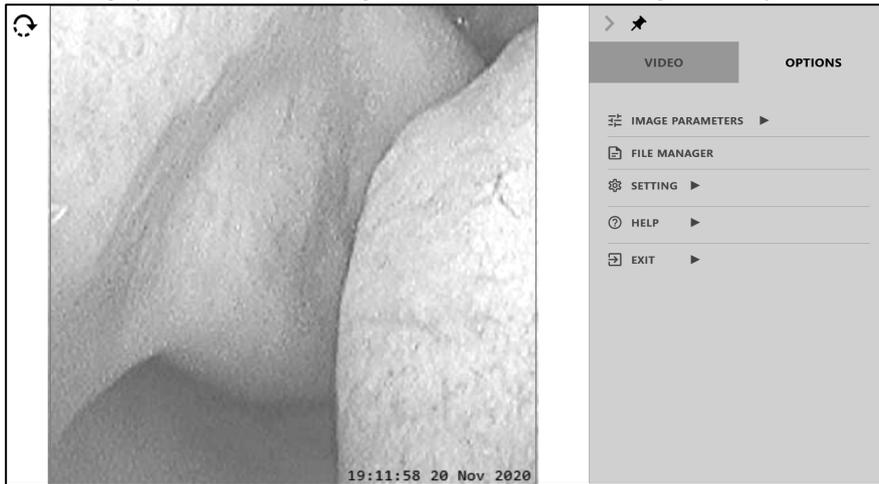

Figure 7 - OPTIONS Screen
1. Advanced options such as image parameters, files manager, video out and clock setting can be adjusted in the OPTIONS screen (Figure 7).